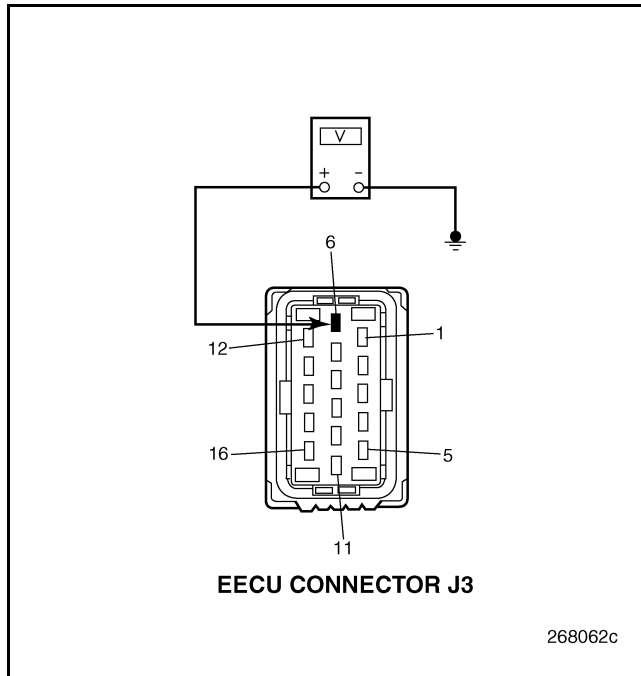

Figure 767
5. Measure the voltage between the EECU connector J3 pin 6 and a good ground (see Figure 767).